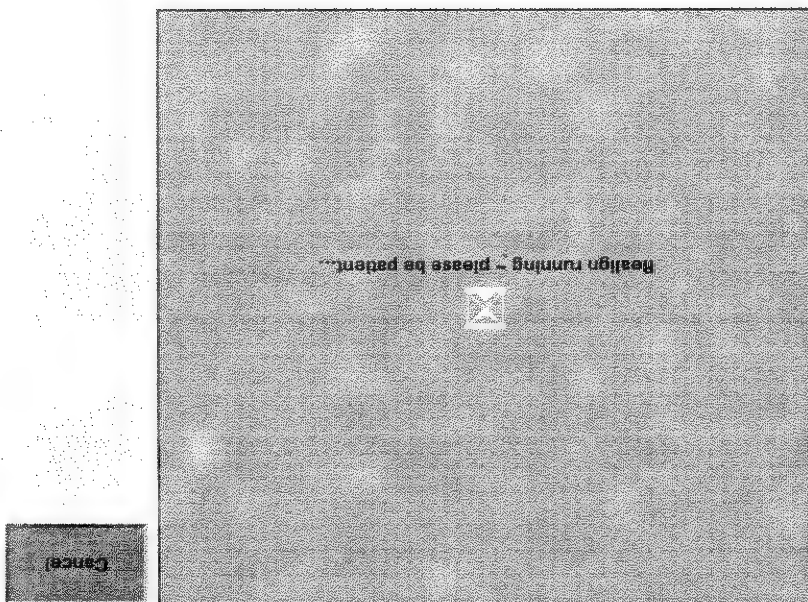

Figure 79 Realign Screen
- 2 Move to *<Realign>* and press [OK]. You will see the screen in Figure 79.